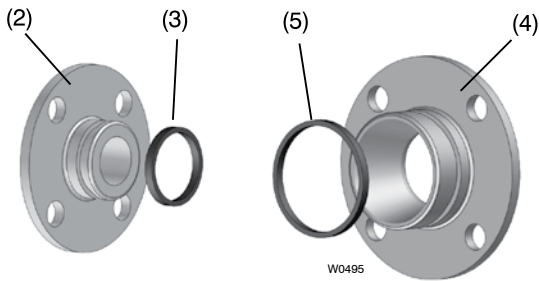

Figure 22
35. Position pump vertically as shown in Figure 22 and fully tighten bolts (28) and (29) to 12-13 ft. lbs.
36. AFTER all case bolts are tight, then fully tighten discharge flange support bolts (35).
37. Lubricate O-ring (5) inside of the suction flange (4) and install suction flange support.